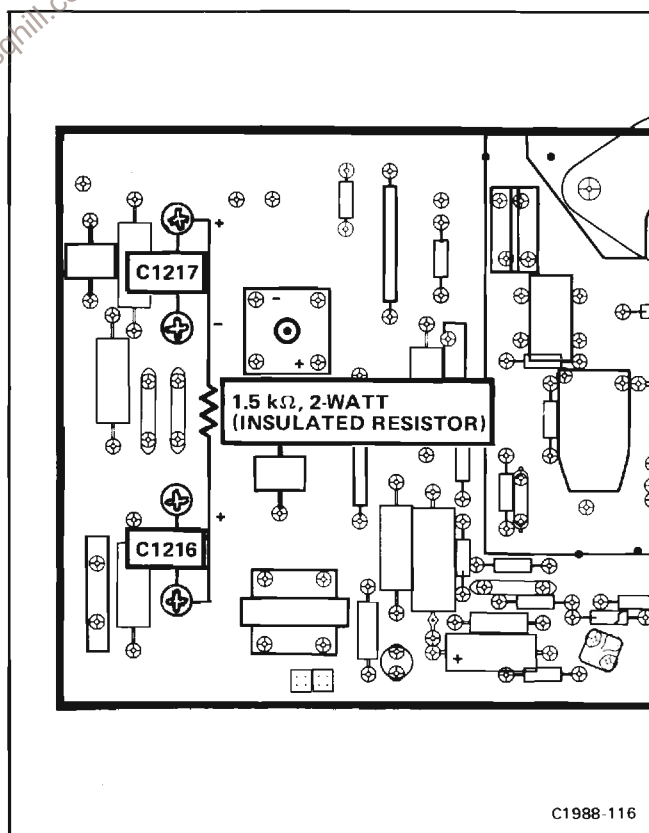

Figure 4-5. Location of line storage capacitor screws used for manually discharging C1216 and C1217.
4. Attach a 10X voltage probe from the test oscilloscope to one of the screws used to discharge C1216 and C1217 (see Fig. 4-5). Set the variable autotransformer for 20 volts and turn the 7104 on. Set the test oscilloscope for line triggering.